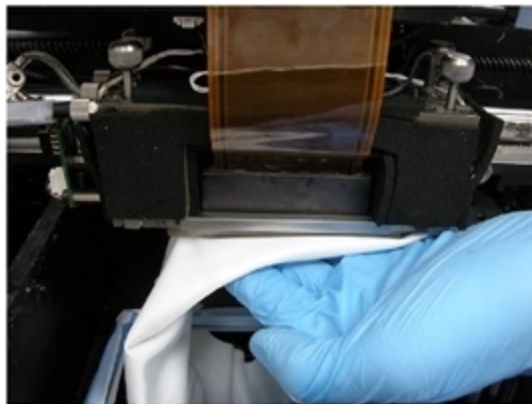

Figure 6-33 Cleaning the heads
9. Clean the orifice plates, with a back-and-forth motion (see Figure 6-33). Use the mirror to make sure that you have removed all of the residue material.